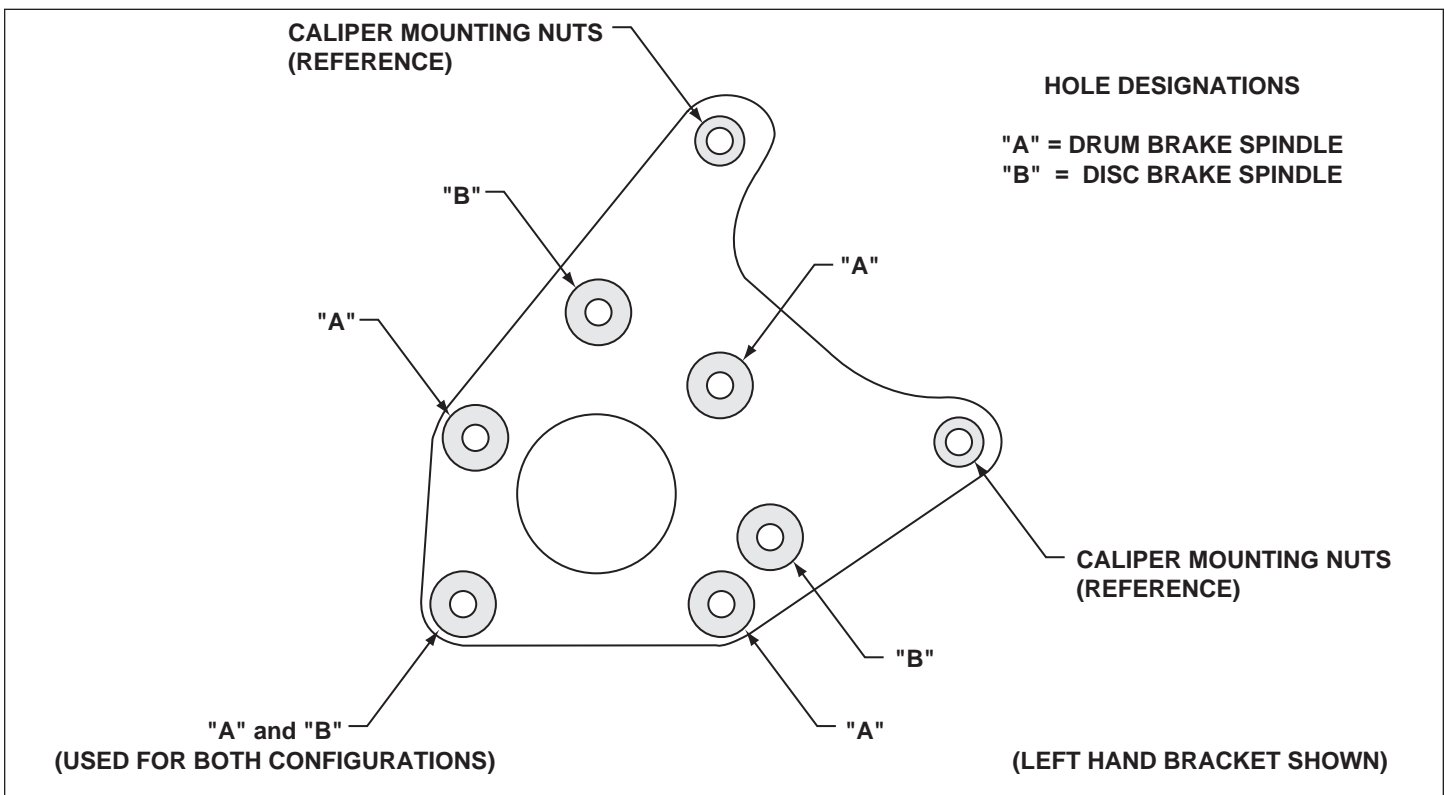
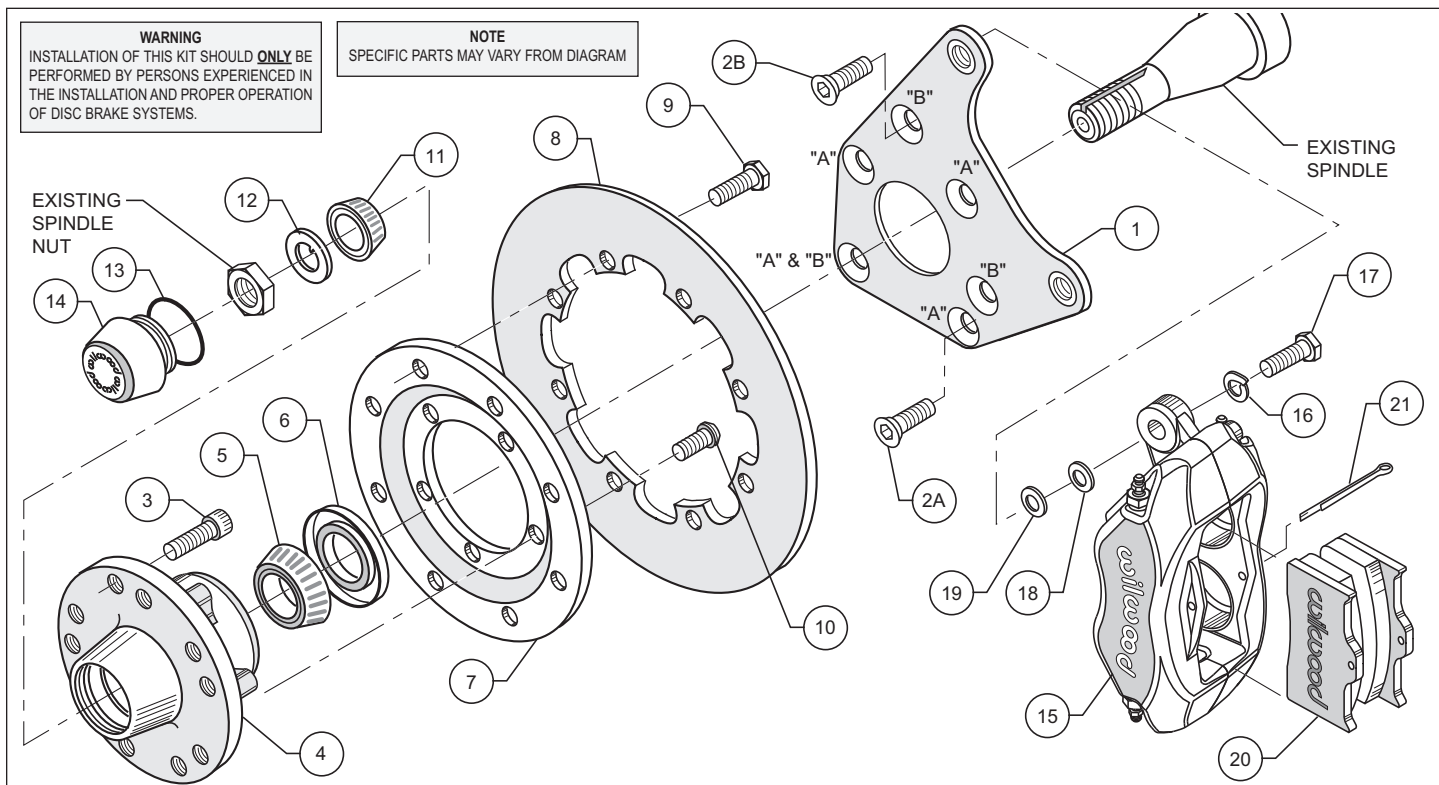
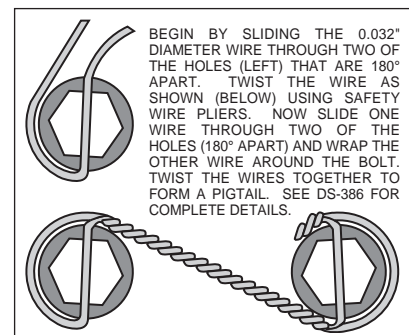

Figure 1. Wilwood Caliper Mounting Bracket
Figure 2. Typical Installation Configuration
Figure 4. Safety Wire Diagram
This kit has been designed for use with both the disc brake or the drum brake configuration of vehicle. The only difference is in how the Wilwood caliper mounting bracket is installed. The same bracket is used for both configurations; the disc brake version utilizes three mounting holes while the drum brake application uses four mounting holes (see Figure 1). For your convenience we have supplied bolt kits for both applications (see parts list and Figure 2 as necessary, item(s) 2A and 2B). Use the bolt kit that is applicable to your vehicle and disregard the other one.
These modifications should be performed by a qualified machinist and completed before assembly of the Wilwood disc brake kit begins. Using the caliper mounting bracket as a template (refer to figure 1 as necessary), locate and verify the three original stock holes on the steering arm that need to be modified. Drill a .332 diameter hole through all three holes, then tap 3/8-24 UNF (fine thread). Countersink the holes to .438 x 90°.
- As mentioned before, this kit uses the same mounting bracket (1) for both the drum and disc brake spindle. The drum version utilizes four mounting bolts (designated with a "A"), while the disc only requires three (designated with a "B"). Refer to figure 1 and figure 2 as required for the basic installation position of the bracket and the "A" and "B" reference designations (these designations are not physically marked on the bracket, they are referenced on the drawings for your convenience) and align using the three or four holes (as applicable) to the face plate of the steering arm. Install bolts (2A or 2B) through caliper mounting bracket (1) into steering arm, finger tighten only. After you are positive of the bracket (1) alignment, remove the mounting bolts (2A or 2B) one at a time and Apply red *Loctite*® 271 to bolt threads (2A or 2B), then reinstall. Torque bolts 2A or 2B to 30 ft-lb. **NOTE:** Be sure the heads of the bracket (1) insert nuts are facing outward toward the wheel.
- Install wheel studs (3) into the hub (4). Torque to 77 ft-lb. **NOTE:** There are two (2) five lug patterns in the hub (5 x 4.50 and 5 x 4.75). Make sure of the correct hole pattern for the correct wheel application before installing studs into hub.
- Pack the large inner bearing cone (5) with high temperature disc brake bearing grease (available from your local auto parts store) and install into the backside of the hub (4).
- Install the grease seal (6) by pressing into the backside of the hub (4).
- Attach rotor adapter plate (7) to rotor (8) using bolts (9). Torque bolts (9) to 180 in-lb. Safety wire bolts (9) using standard 0.032 inch diameter stainless steel safety wire as shown in Figure 4. Please refer to Wilwood's data sheet DS-386 (available at www.wilwood.com/pdf/ds386.pdf) for complete safety wire installation instructions. **NOTE:** Dished side of adapter plate (7) should face hub (4). The machined tab side of the iron rotor (8) should face the adapter plate (7).
- Mount the adapter/rotor assembly (7 and 8) to the hub (4) using bolts (10). Torque bolts (10) to 22 ft-lb. Safety wire bolts (10).
- Pack the small outer bearing cone (11) with high temperature disc brake bearing grease and install into front of hub (4). Slide the hub/rotor assembly (4 and 8) with outer bearing cone (11) onto the spindle. Secure using spindle washer (12), stock adjusting nut and nut locking device. Adjust bearings per Original Equipment Manufacturer (OEM) specifications.
- Install the o-ring (13) and then the dust cap (14) onto the hub (4). Friction created by the o-ring (13) on the dust cap (14) keeps it from unscrewing.
- NOTE:** Please reference the caution statement at the beginning of the assembly instructions. With the bleed screws pointing up, mount the caliper (15) onto the caliper bracket (1) using lock washers (16) and bolts (17). Place two .063 thick flat washers (19) between the caliper (15) and the caliper mounting bracket (1) before sliding the mounting bolts (17) all the way into the caliper mounting bracket (1), finger tighten only. View the rotor (8) through the top opening of the caliper (15). The rotor (8) should be aligned in the center of the caliper (15). If not, adjust the caliper (15) by using 0.032 inch thick shims (18) placed between the caliper mounting bracket (1) and the caliper spacer washer (19). Finger tighten and recheck alignment. Use as many shim washers (18) as necessary to achieve the correct alignment. Apply red *Loctite*® 271 to bolt threads (17) and torque to 30 ft-lb. Safety wire caliper bolts (17).
- Install the disc brake pads (20) and secure using cotter pin (21).